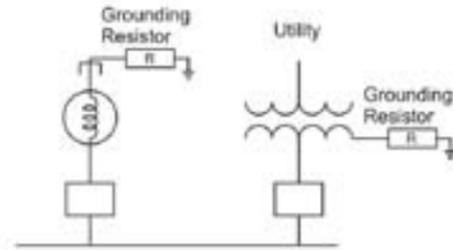

Fig. 1 Low Impedance Grounded System
**Low Impedance Grounded.** A low impedance grounded system comprises of a connection of the generators neutral terminal to ground through an impedance as shown in Fig. 1. The resistor typically limits ground fault currents from 200 to 800 Amperes for a short duration. The fault current is selected in order to minimize damage at the point of fault as well as providing selective coordination of the protection system.
High Impedance Grounded. A high impedance grounded system comprises of a connection of the generators neutral terminal to ground through an impedance as shown in Fig. 1. The resistor typically limits ground fault currents to a low value for an extended duration. The fault current is selected in order to be equal to or greater than the system capacitive charging current.